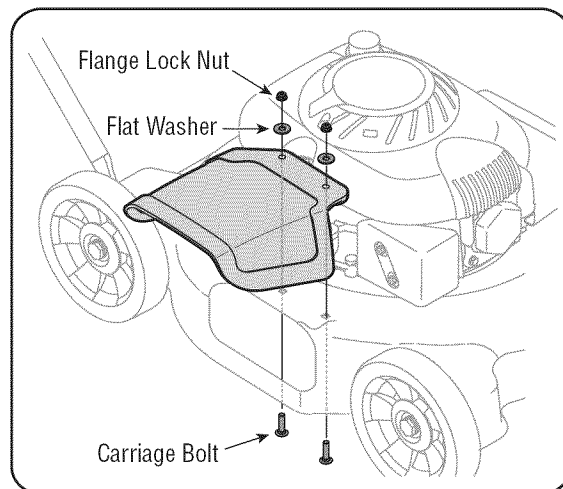

Figure 4
- Place the chute deflector in position on the deck, aligning holes. See Figure 4.